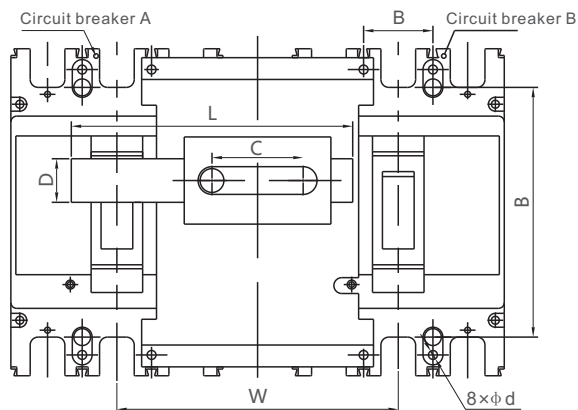

Fig 6 Mechanical interlock dimension diagram
5.2.3 Installation dimension of Mechanical interlock of two circuit breakers, see Table 6 Fig 6 and Table 8.